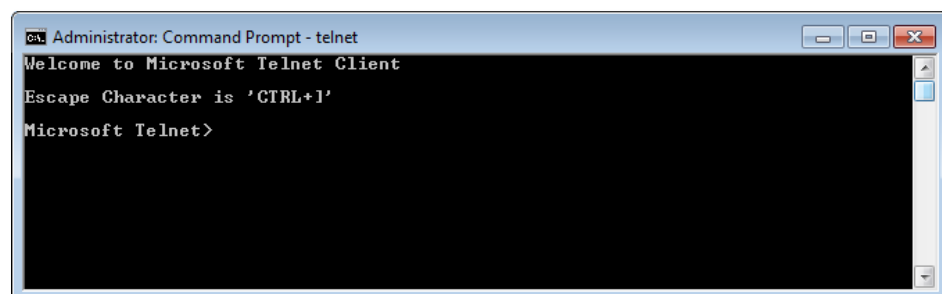

Figure 67. Telnet Window
2. At the prompt, enter `telnet`. A window similar to figure 67 opens.